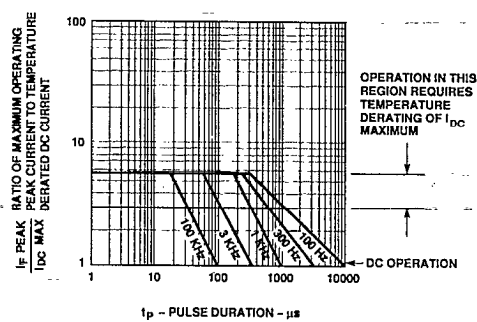

Figure 8. Maximum Tolerable Peak Current vs. Pulse Duration - Yellow Series.
7. See Figure 8 to establish pulsed conditions.